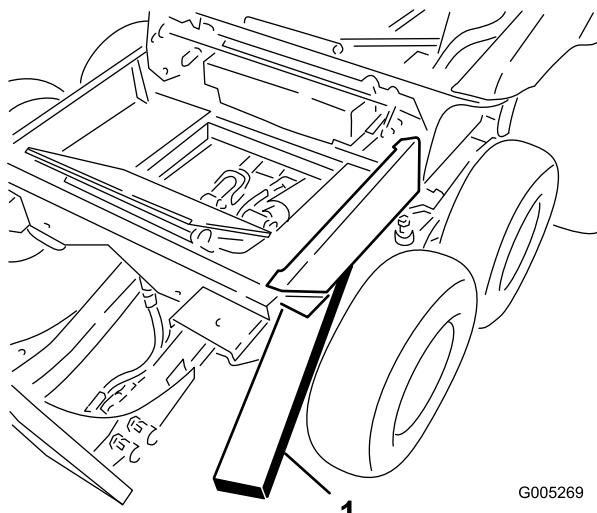

Figure 42
1. Insert a 2 x 4 between the front bogie stop and the frame to tilt the winter frame toward the rear (Figure 42).